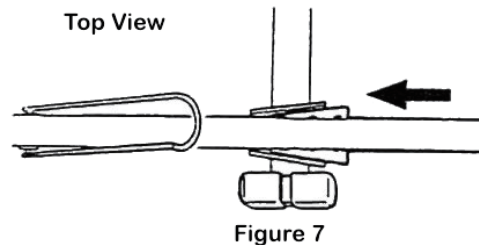

Figure 7
- Slide the tapered plates on the crossarms into the tapered sockets on the cradle. (Figure 7)